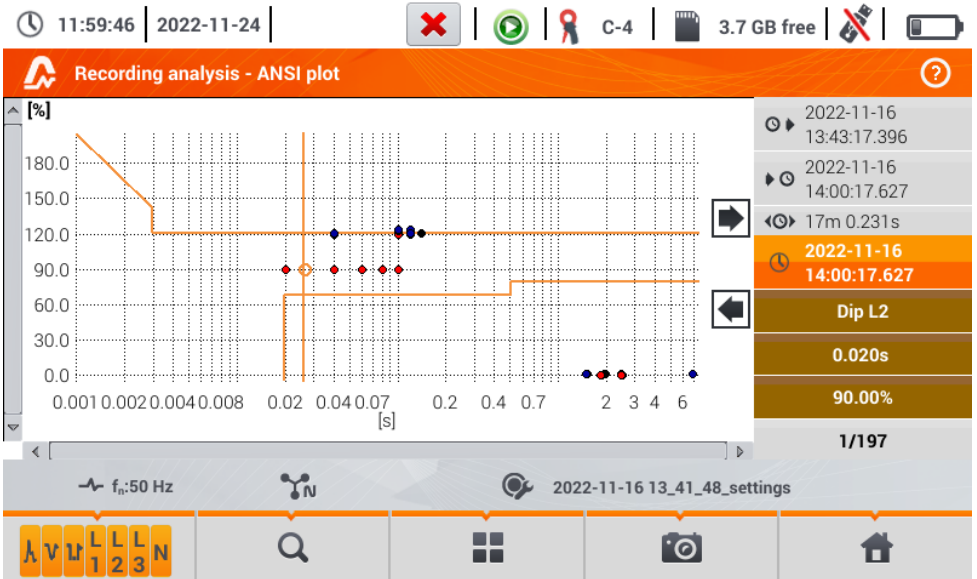

Fig. 5.26. Recording analysis – ANSI graph
- ANSI chart. It shows the graph of voltage events according to ANSI criteria. Dots represent individual events and their location indicates the duration (horizontal axis) and peak (*extremum* in the event table) related to the nominal voltage on the vertical axis. Arrow icons on the right side of the graph may be used to select individual events. By touching the screen in the graph area, the user may move the marker to the indicated place. Information about the specified event (type, duration, extreme value) are shown on the right side of the screen. An example of screen with similar diagram is shown in Fig. 5.26.